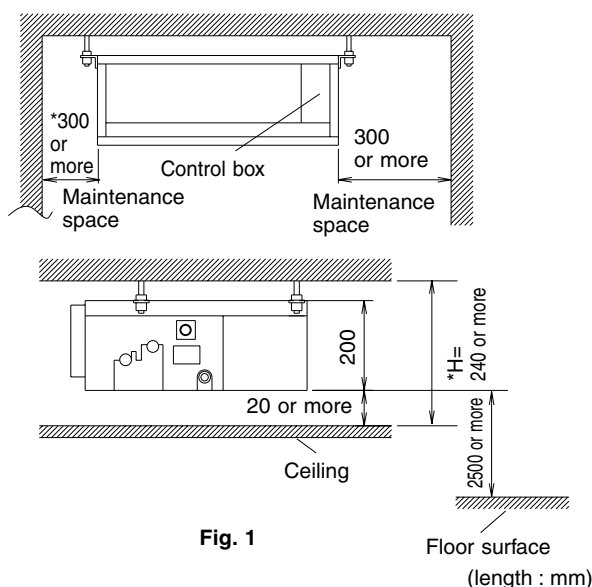

Fig. 1
- Where sufficient clearance for maintenance and service can be ensured. (Refer to Fig. 1)